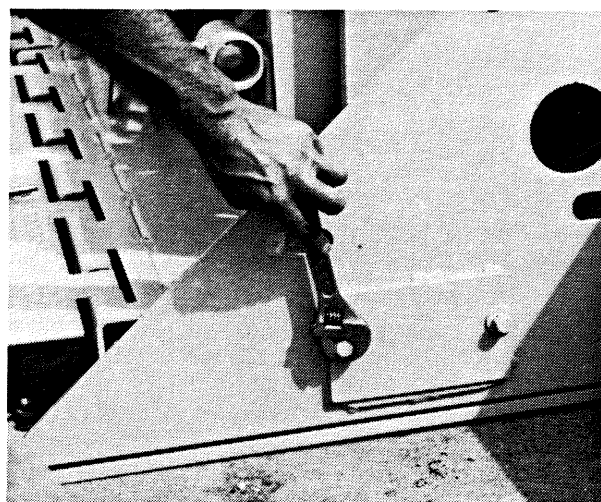

Figure 14
- (1) Remove heat duct cover on each end of screed. (Figure 14)